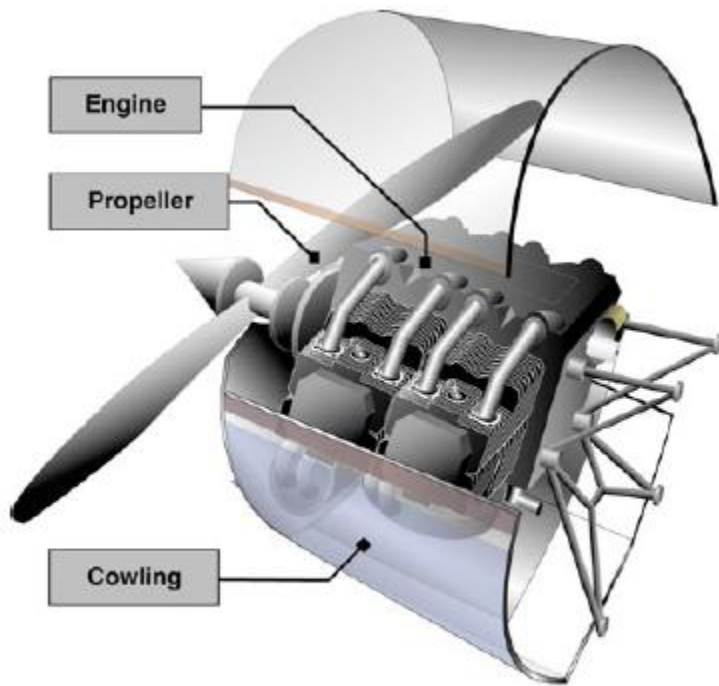

Figure 2-13. *Engine compartment.*
- It also generates electrical power, provides a vacuum source for some flight instruments, and in most single-engine airplanes, provides a source of heat for the pilot and passengers. *[Figure 2-13]*